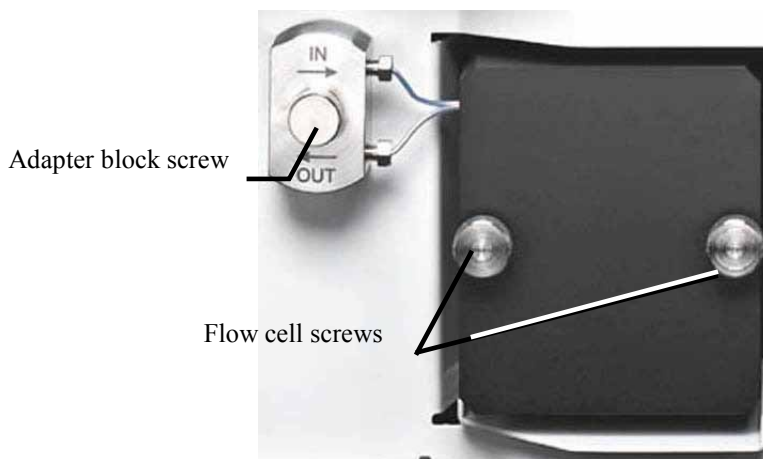

Fig. 37: Flow cell with adapter block
2. Loosen the screw that holds the adapter block in position (→ Fig. 37).
3. Remove the two screws on the flow cell cover, and then remove the cover (→ Fig. 37).
2. Remove the two screws on the flow cell cover (→ Fig. 37), and then remove the flow cell.